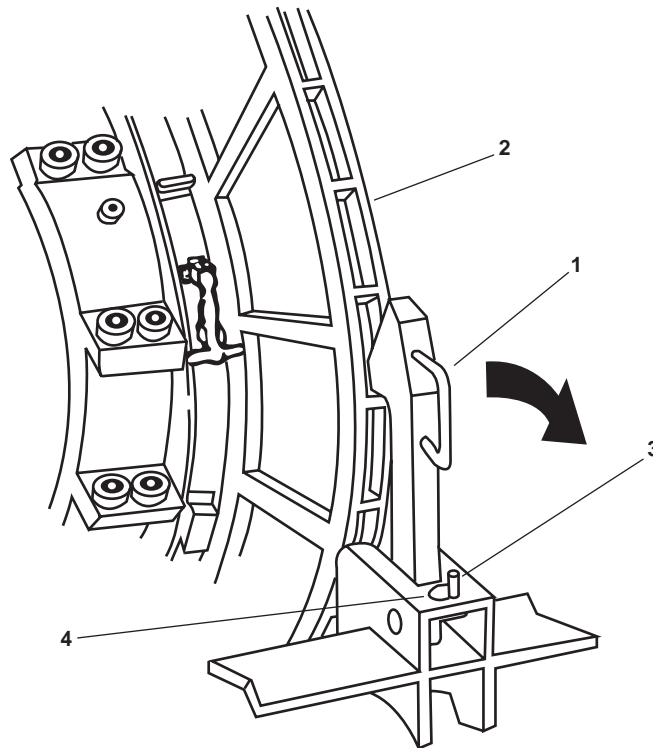

Figure 8. Towing Machine Mechanical Dog
5. Disengage the mechanical dog (figure 8, item 1) from towing machine drum (figure 8, item 2) and insert the keeper pin (figure 8, item 3) in the retaining hole (figure 8, item 4).